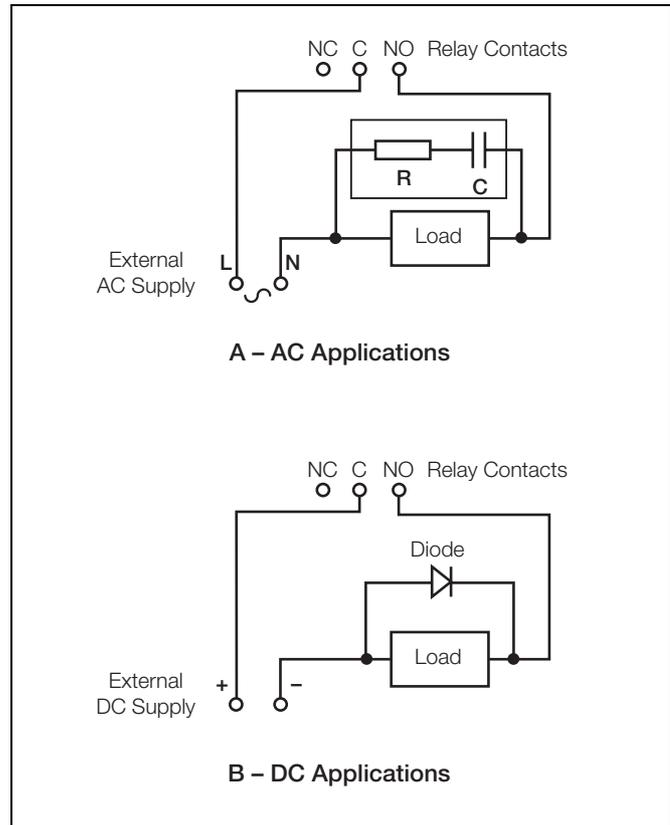

Fig. 2.6 Relay Contact Protection
2.7 Relay Contact Protection and Interference Suppression – Fig. 2.6